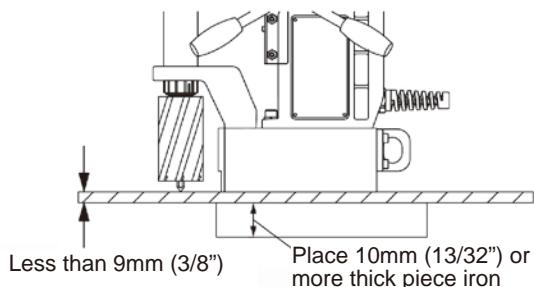

Fig. 3
- If the work piece is less than 9mm thick, you must use an iron back-up plate that is more than 10 mm in thickness. The surface area of the iron back-up plate must be greater than the surface area of the magnet. An appropriate back-up plate is necessary to boost the holding power of the Magnet.(Fig.3) Use of an inappropriate back-up plate can result in an accident, If the back-up plate is not thick enough or big enough, the machine will come loose during operation. This can result in an accident and severe injuries.